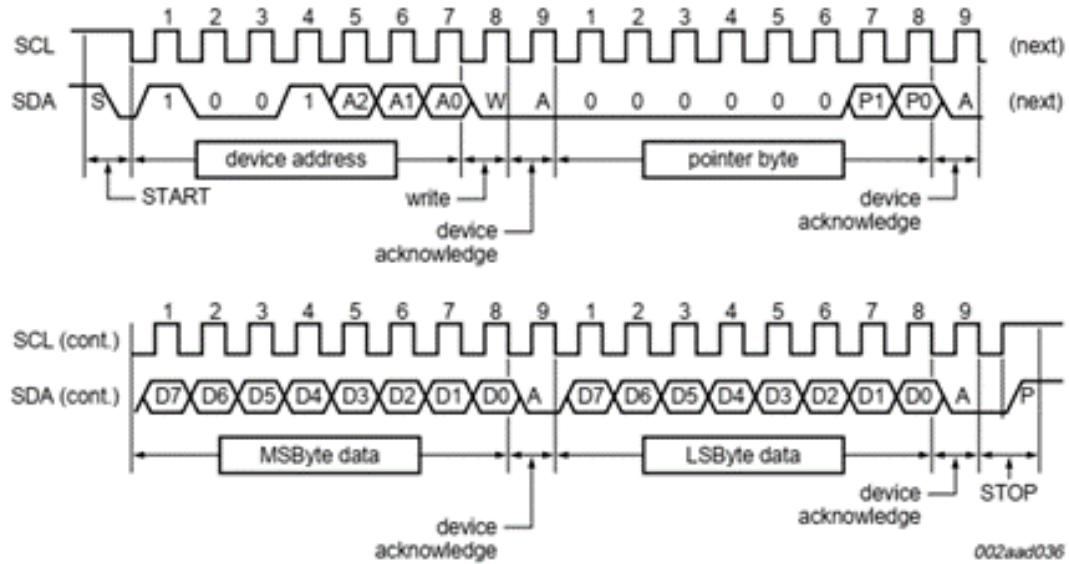

FIGURE 2.6 – Write Tos or Thyst registers (2-byte data).
5. Complete the *lm75a_writeThysOrTosRegister()* function to write *Tos* or *Thyst* registers (2-byte data) by helping you figure with the Figure 2.6. Build the program.